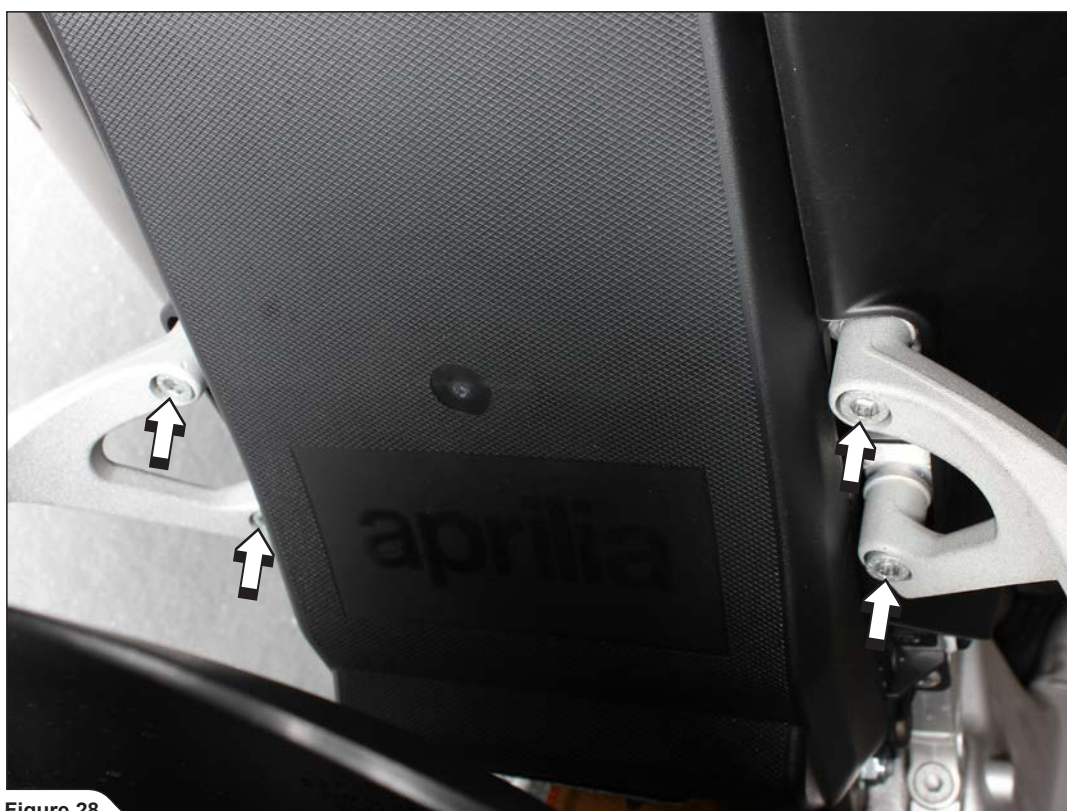

Figure 28
11. Unscrew marked bolts on both sides and remove passenger's foot rests off the motorcycle (Figure 28).